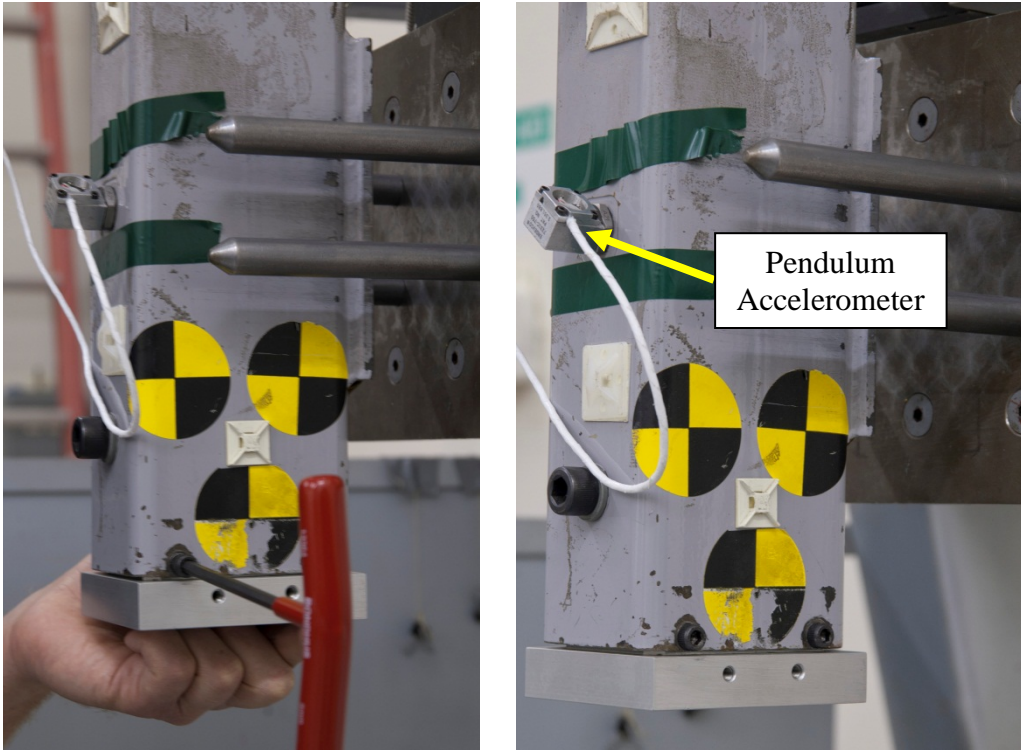
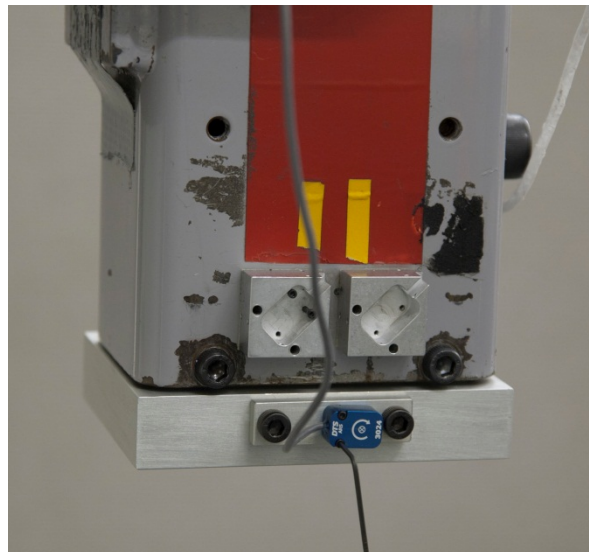

Figure 138. Install pendulum interface plate and pendulum accelerometer
Figure 139. Install ARS to pendulum
- Install the Angular Rate Sensor (ARS)⁴⁰ to its mount using two M1.4 x 8 SHCS so that it measures rotational velocity about the (headform) Y axis. Then install this assembly to the front of the headform (Figure 138 and Figure 139).